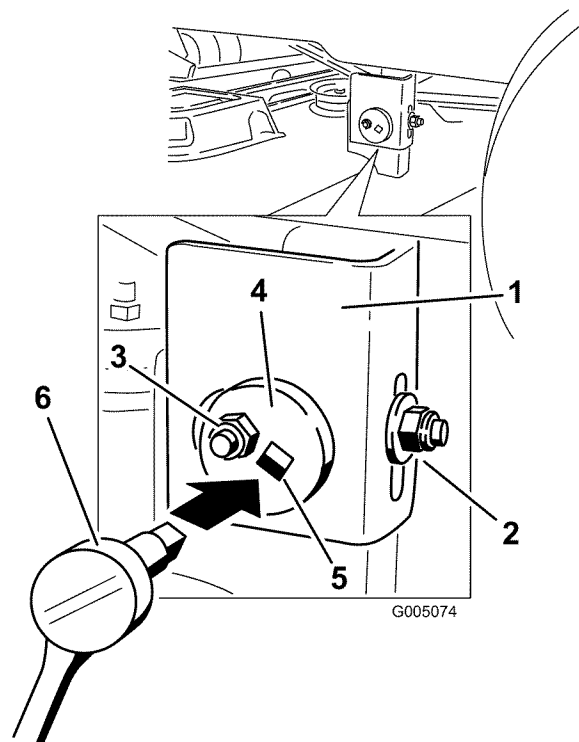

Figure 48
- Move to the left side of the machine. Loosen, but do not remove, the rear locking nut on the hanger bracket (Figure 48).
- Loosen the side locking nut on the hanger bracket just enough to allow the eccentric plate to be adjusted (Figure 48). Use a 3/8 inch drive extension on a socket wrench to manipulate the eccentric plate. Use the wrench to reposition the height of the mower deck and adjust to the desired height.
- Stop the deck at the adjusted position and tighten the side locking nut on the hanger bracket to hold the new position (Figure 48). Tighten the rear locking nut on the hanger bracket.